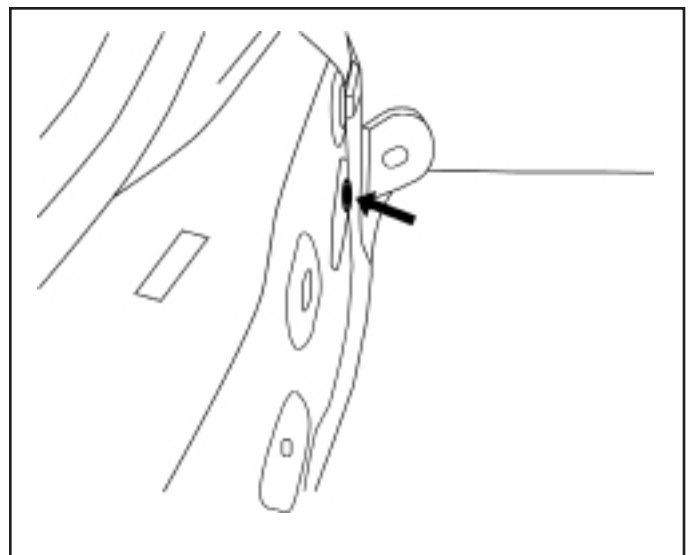

Fig. 7
13. Pull back the trunk liner tab and insert a rubber wellnut into lower drilled hole. (Fig. 7)